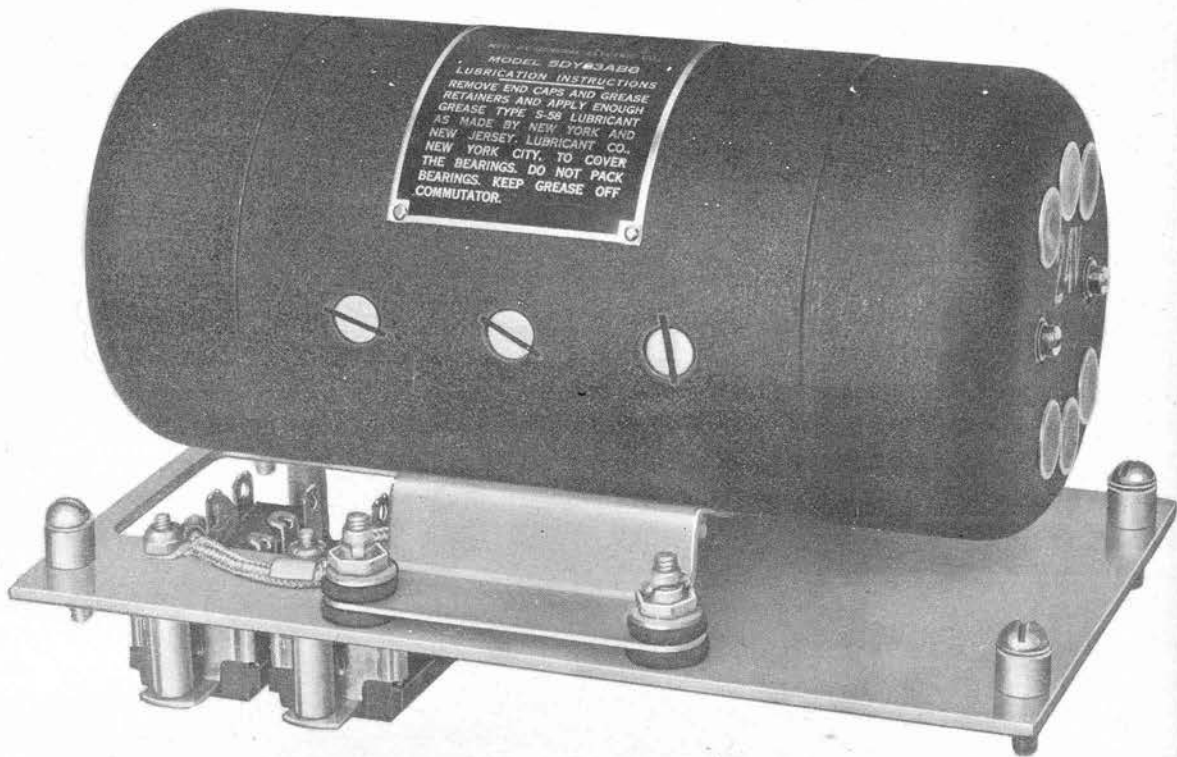
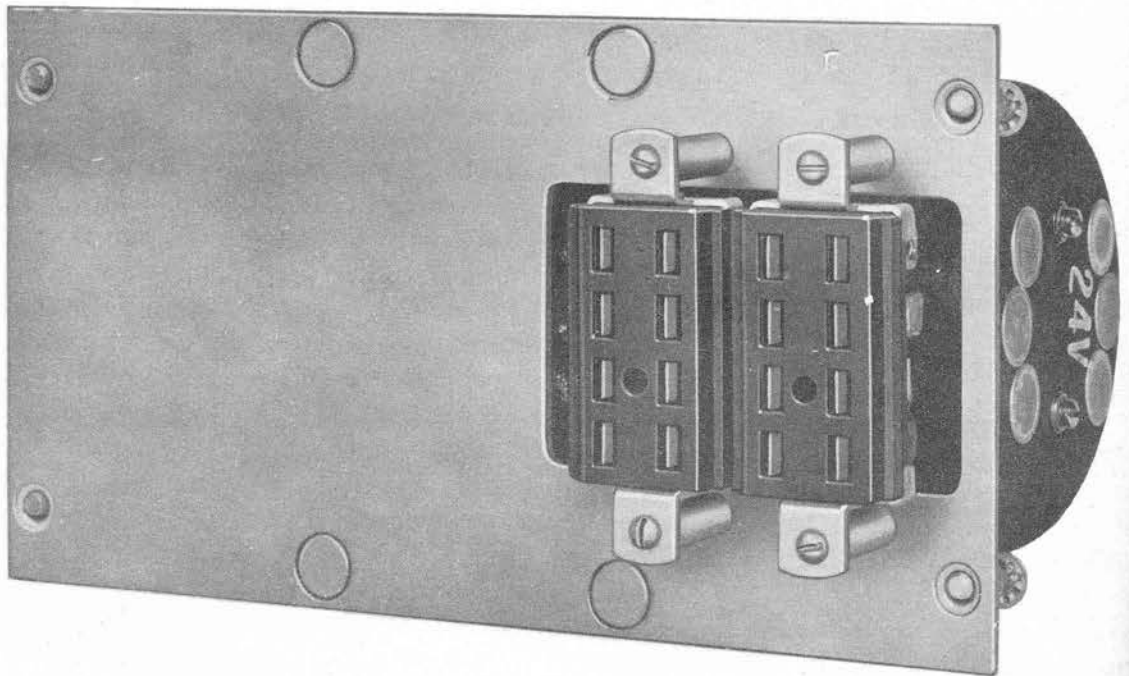

Fig. 22a. Dynamotor DM-35-(\*) or Dynamotor DM-37-(\*)
Fig. 22b. Dynamotor DM-35-(\*) or Dynamotor DM-37-(\*): Sub-base View
*b. Dynamotors DM-35-(\*) and DM-37-(\*).* Each of these dynamotors provides approximately 625 volts for operation of the transmitter. The dynamotors are of similar appearance; and two views are shown in Fig. 22a and Fig. 22b. Except for screened breathing vents in the end covers, the dynamotors are totally enclosed. The screened holes have been omitted in later dynamotors to reduce the entrance of dust or sand. This does not affect the power rating of the dynamotors. Their armatures are dynamically balanced and are supported by two single-race ball bearings. Both dynamotors are compound wound. The primary and secondary are wound in the same armature slots, but the two windings are brought out to separate commutators mounted on opposite ends of the armature shaft.